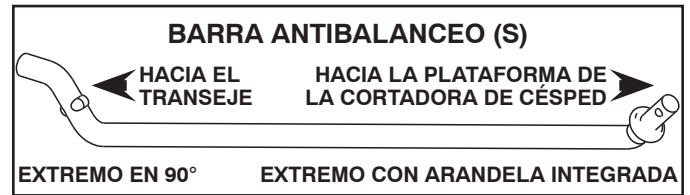

Fig. 25
5. SI LA TIENE, INSTALE LA BARRA ANTIBALANCEO (S) (Vea Fig. 25 - 27)